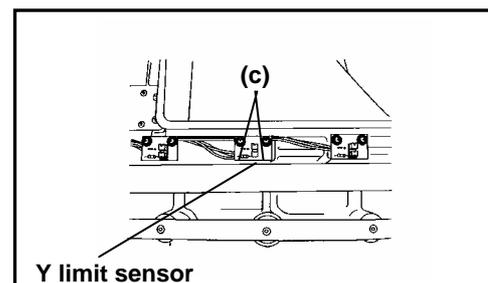

FIG.3
- (3) If the Y distance differs from that specified, loosen two setting screws (c) and move the limit sensor to the specified position, then tighten setting screw (c). (Fig.3)